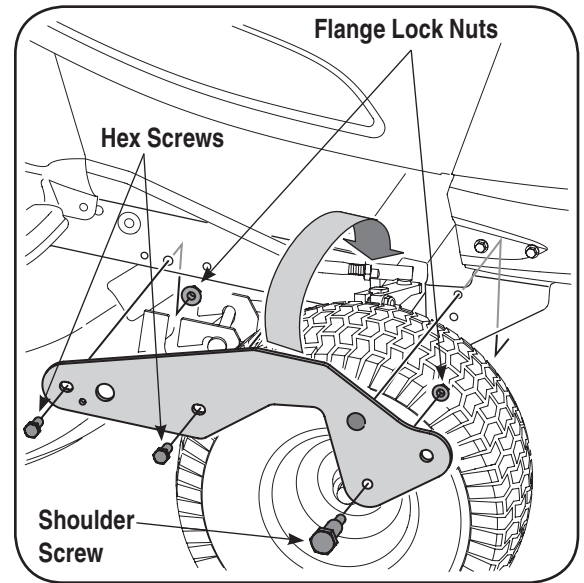

Figure 17
1. Install a shoulder screw (738-0143) and flange lock nut (712-04065) in the top front hole of each snow thrower assembly bracket as in inset Figure 17.
2. Mount snow thrower assembly brackets (683-04214 & 683-04215) to your tractor using the loose hardware included (Hex Screw 710-0514 & Flange Lock Nut 712-04065). See Figure 17.